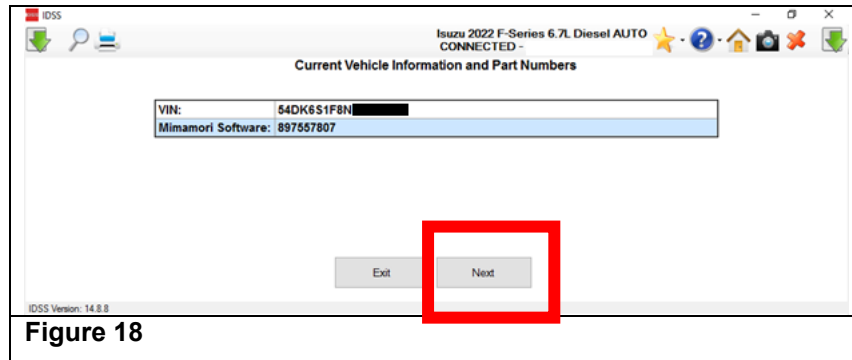

Figure 18
23. Verify the VIN number matches the vehicle. If OK, click “Next”. (See Figure 18.)